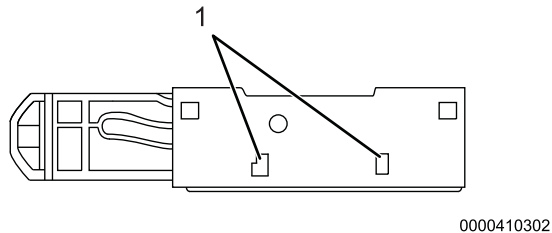

Figure 2. Slider Tab Locations
4. Using a small flat-head screwdriver, disengage tabs (Figure 2, Item 1) while simultaneously pulling slider. Discard slider.